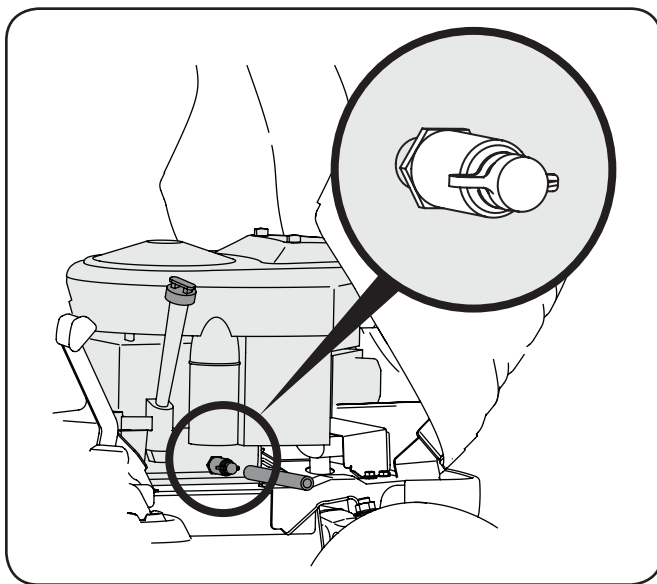

Figure 6-1
3. Pop open the protective cap on the end of the oil drain valve to expose the drain port. See Fig 6-1.
6. Rotate the drain valve counter-clockwise and release to drain the oil. See Fig 6-1.